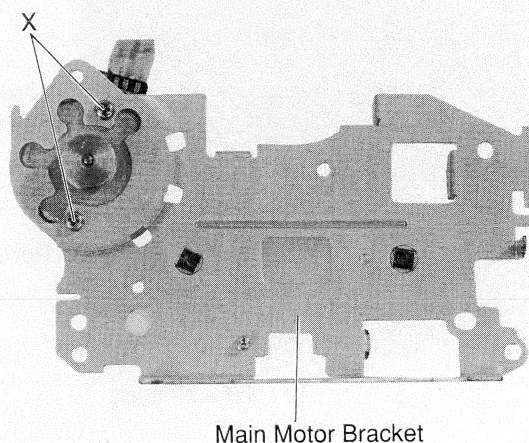

Figure 16
- (2) Remove two screws marked "X" as shown in Figure 16.